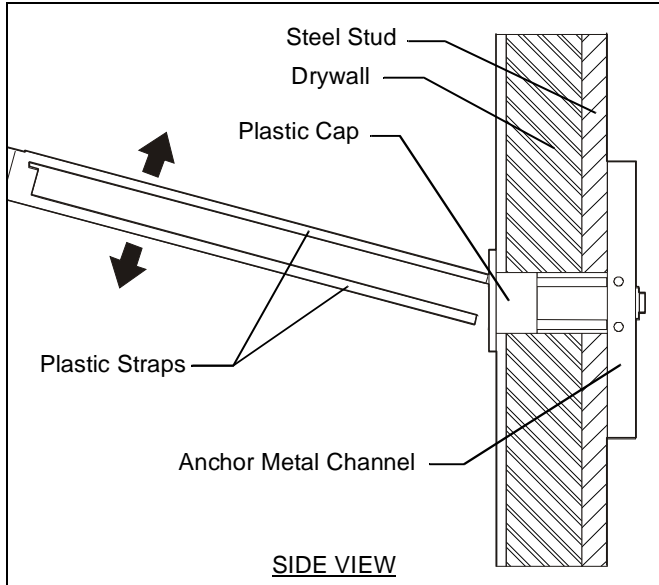

Figure 6
9. Snap off plastic straps on anchor at wall by pushing side to side, snapping off straps level with flange of plastic cap.(See Figure 6)